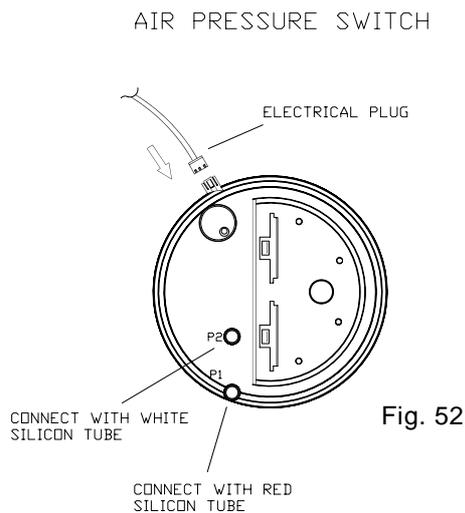

Fig. 52
7.17 TO REMOVE/REPLACE THE DIFFERENTIAL PRESSURE SWITCH (fig. 52).
- 7.17.5 Ensure tubes are connected correctly (Fig. 52) avoiding kinks.